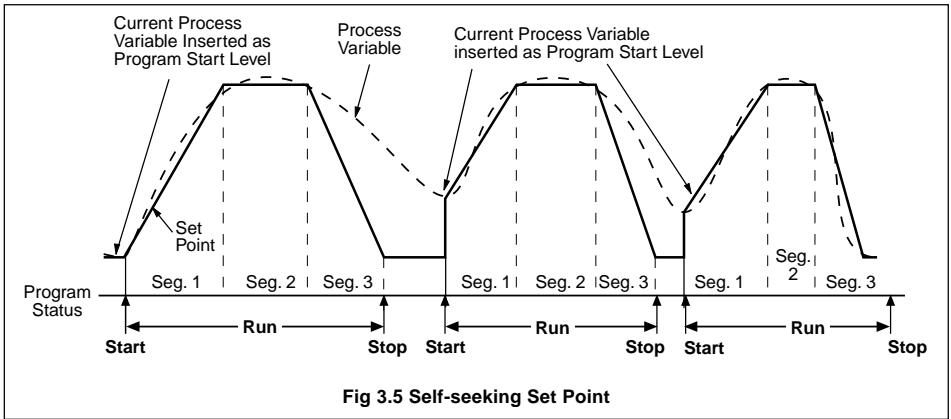

Fig 3.5 Self-seeking Set Point
- **Self-seeking set point function** – avoids unnecessary delays when a program is started – see Fig. 3.5.
3.2.4 Self-seeking Set Point – Fig. 3.5